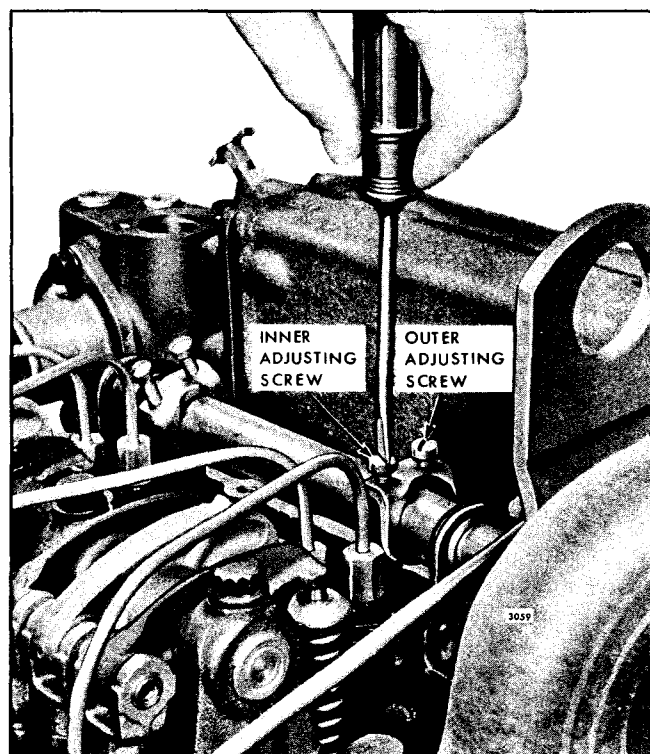

Fig. 2 - Adjusting Height of Rack Control Lever Adjusting Screws
1. Adjust the inner and outer adjusting screws (Fig. 2) on the rear injector rack control lever until both screws are equal in height and tight on the control tube. Check the clearance between the fuel rod and the cylinder head casting (below the bolt) for at least $1/16$ " clearance when the injector rack is in the *full-fuel* position and the rack adjusting screws are tight. If the fuel rod contacts the bolt or cylinder head casting, readjust the screws to obtain the $1/16$ " clearance.